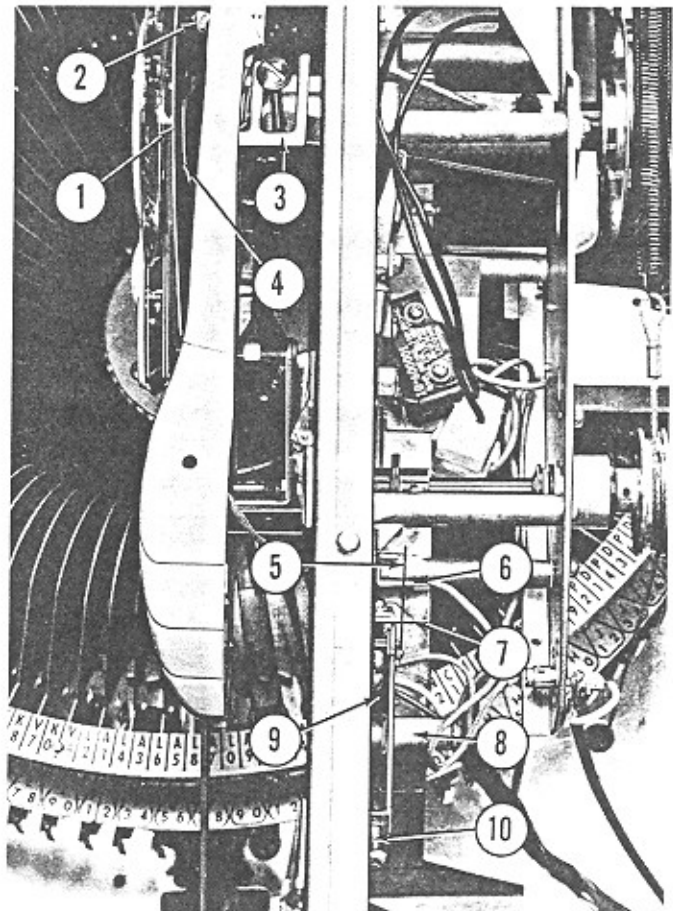

Fig. 34. TRIP SWITCH SETTING
The trip switch adjustment is located at the right rear of the top support casting. It is actuated by the bracket (Item 6, Fig. 34) of the tone arm assembly. The action of the trip switch may be advanced or retarded by turning the adjustable stop screw (Item 10). The operation of the trip switch should occur after the needle has left the playing groove and is accelerated toward the center of the record by the
c. Manually advance the cycle of the record changer by turning the shaft of the changer motor counter-clockwise, as viewed from the rear, until the tone arm is released for compliance with the record grooves. The tone arm latch bracket (Item 3, Fig. 34) should be entirely free from the feed-in adjusting screw as shown.
d. The trip switch adjusting screw (Item 10, Fig. 34) should be set at a point which will produce switch action when inward movement of the tone arm positions the pick-up needle $3/32$ " beyond the trip groove marking on the fixture as shown at Item 2.
g. The trip switch adjusting screw (Item 10, Fig. 34) should be set at a point which will produce switch action when inward movement of the tone arm positions the pick-up needle $1-1/4$ " to $1-5/16$ " from the outer circumference of the turntable pilot.